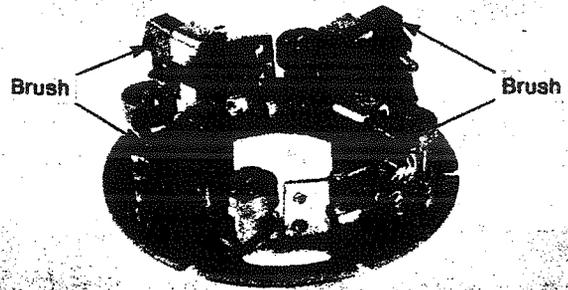

Figure 25
3. Pass a brush contact plate through one of the brush slots in the brush support plate assembly from the inside out. Press brush into brush slot until the brush spring is pushed out of the way. Repeat for the remaining 3 brushes. Secure each brush contact plate with a socket head screw. Torque to 25-35 lbs. in. See figure 25.